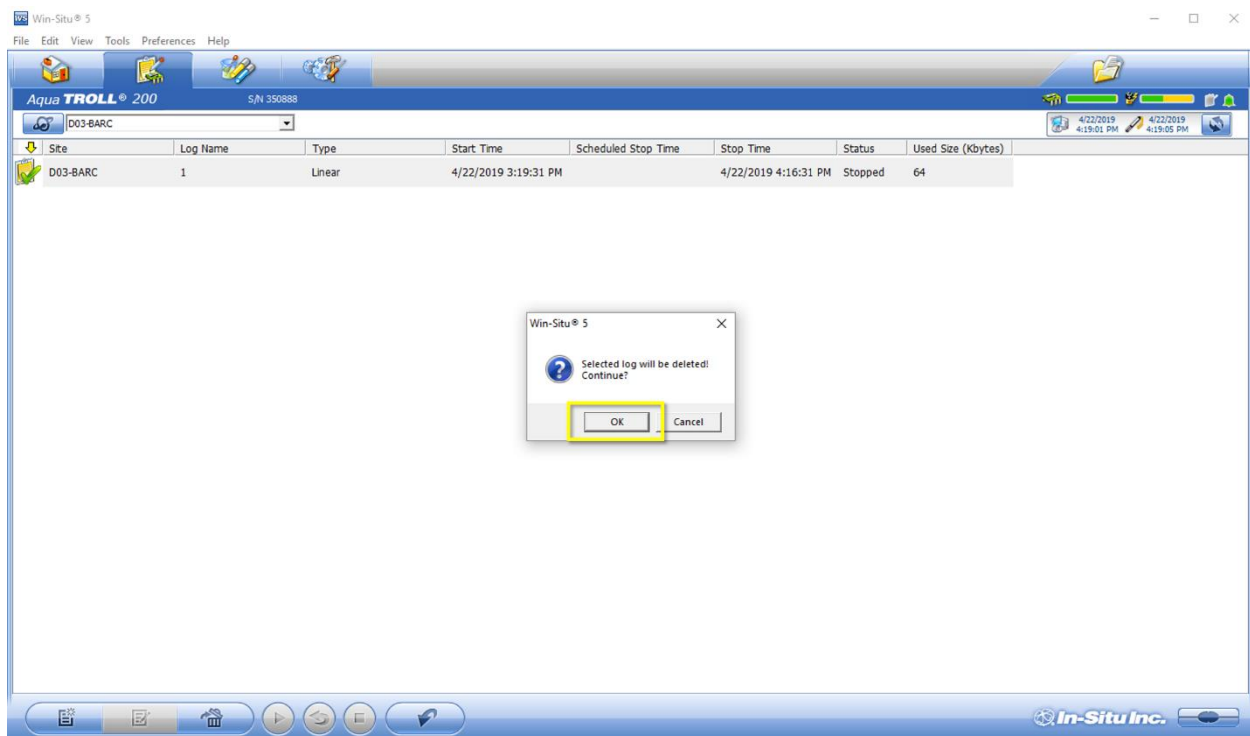

Figure 34. Click “OK” to Proceed when Prompted via the Pop-up Window
2. A pop-up window appears stating the “Selected log will be deleted! Continue?” Click “OK” to continue (Figure 34).